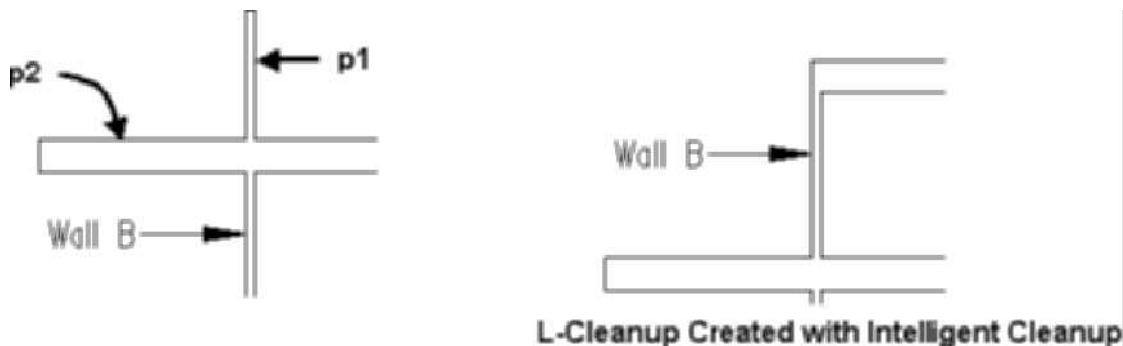

FIGURE 2.36 Applying Intelligent Cleanup to walls
12. In this step you will perform an L-Cleanup using Intelligent Cleanup. Select **Wall B** at **p1**, as shown in Figure 2.36, and choose **Intelligent Cleanup** from the Cleanup panel of the Wall tab. Respond to the workspace prompts as shown below:
Select the second wall: (Select the wall at p2 as shown in Figure 2.36.)
(Wall trimmed as shown at the right in Figure 2.36. Press ESC to clear selection.)